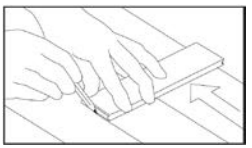

Figure 13
- Two methods for installing the first row after layout completion (see Step 2). Scribe the board if the wall is not straight (Figure 13). Use a sacrificial board with a straight edge and appropriate fasteners, ensuring the groove faces the wall.
- Align the first row with wedges to maintain 1/2" expansion and stabilize the product. Scribe the first board if the wall is not straight (Figure 13).